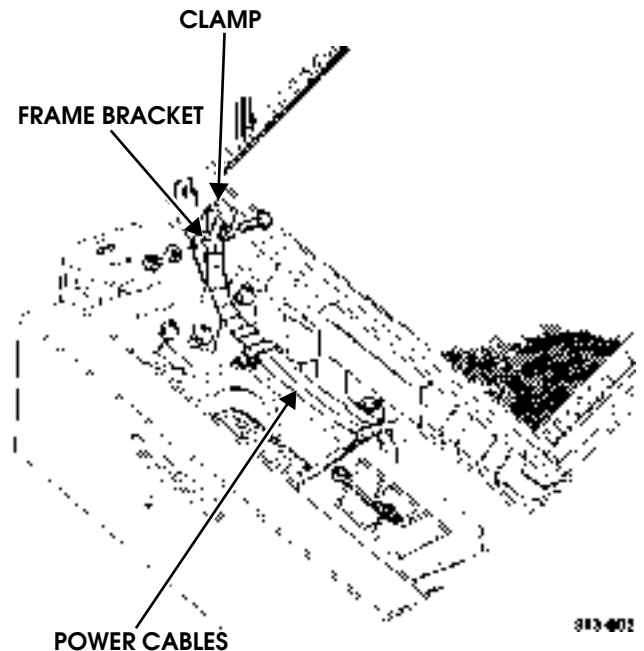

Figure 9-185: Frame Bracket
3. Remove nut, lockwasher, capscrew, and clamp from right frame extension. Discard lockwasher. Pull winch cables through the splash shield to front of vehicle (Figure 9-185).
- Install winch cables on frame bracket with clamp, capscrew, lockwasher, and nut (Figure 9-185).